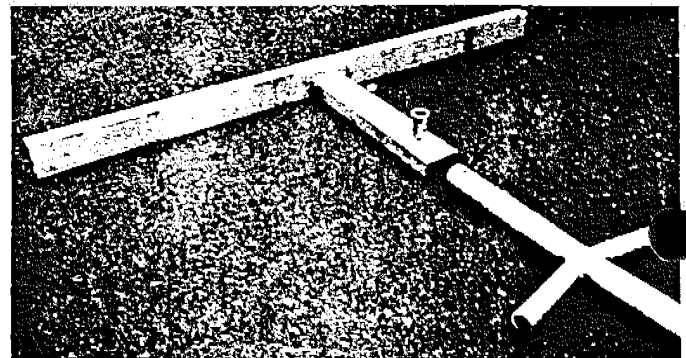

Fig. 17
(1) Slip the ladder base on the bottom of the center pole. Insert a pin through the holes in the base and the pole. (Fig. 17)